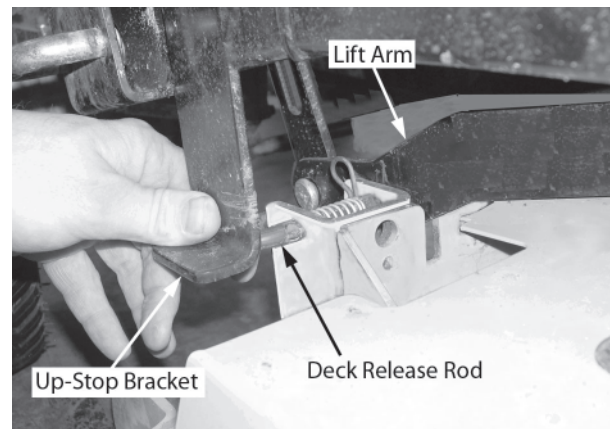

Figure 7-3
- From the right side of the tractor, locate the deck support pin on the rear right/rear of the deck. Refer to Figure 7-3.
- Pull the deck support pin outward to release the deck from the deck lift arm. Pivot the support pin handle downward to lock the pin in the disengaged position. See Figure 7-3.
- On each side of the mower deck, make sure that the deck support pins are pulled outward and fixed in the disengaged position. Refer to Figure 7-3.